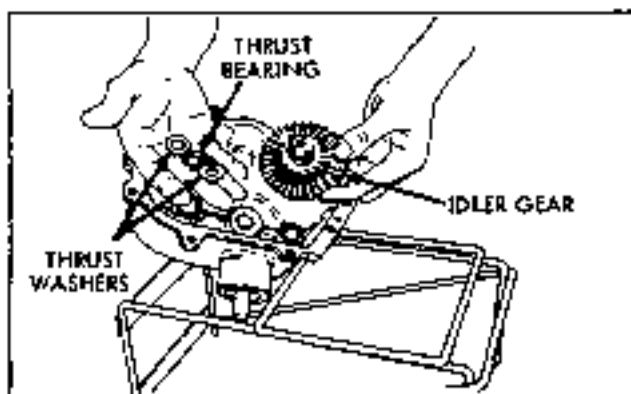

Figure 22
NOTE: For sequence of thrust washers and bearings, See Figure 22).
- (c) Set case assembly open side up. Insert the idler shaft gear assembly, thrust washers and bearing. Note sequence of washers and bearings (Fig 22).
- (j) Install transaxle cover assembly, and secure with eight (8) cap screws.